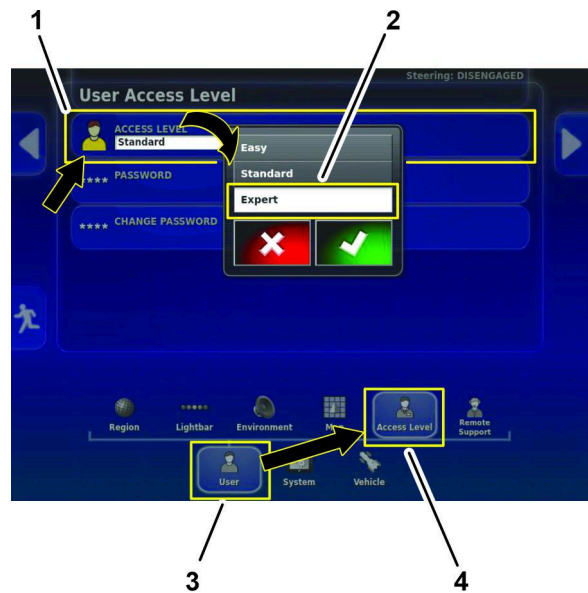

Figure 158
1. On the setup screen, press the USER icon, and the ACCESS LEVEL icon (Figure 158).
2. On the user access screen, ACCESS LEVEL icon (Figure 158).
3. In the dialog box, press the EXPERT icon, and press the confirm icon (Figure 158).